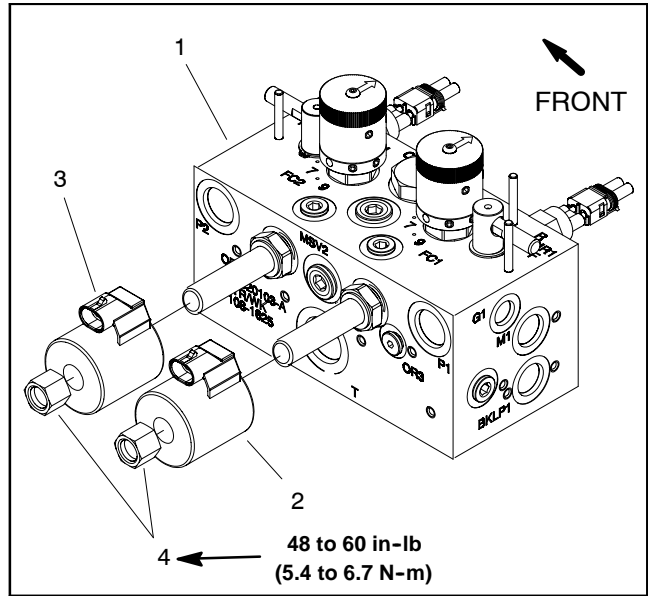
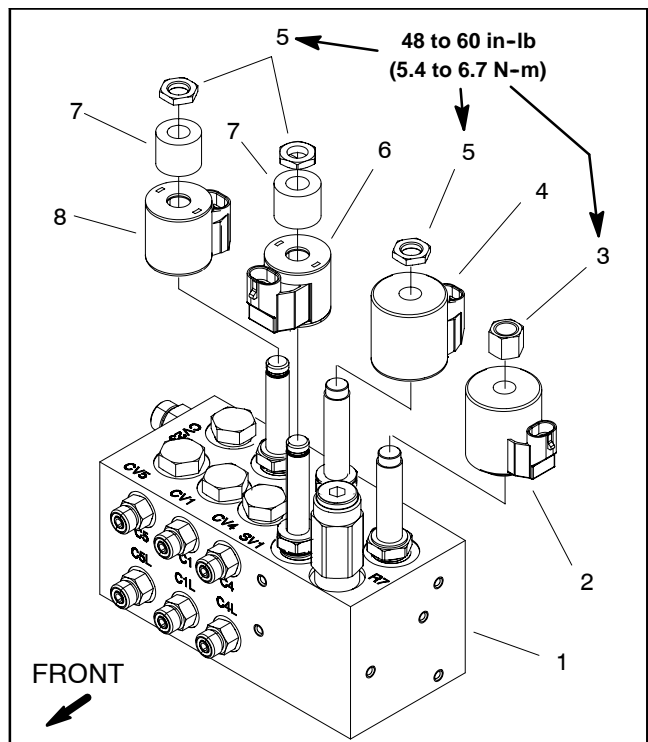

Figure 66
Figure 67
A hydraulic solenoid valve coil on the mow control manifold (Fig. 66) or lift control manifold (Fig. 67) can be replaced without opening the hydraulic system.
A. Tilt operator seat up to gain access to hydraulic mow control manifold. Refer to Figure 66 for solenoid coil locations on the mow control manifold.
B. The lift control manifold is attached to a frame bracket under the operator floor plate. Access to the lift control manifold can be obtained by removing the floor plate. Refer to Figure 67 for solenoid coil locations on the lift control manifold.